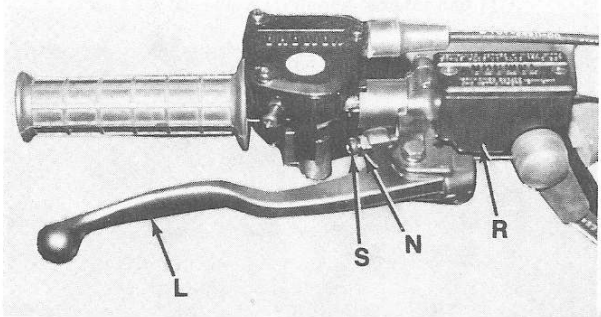
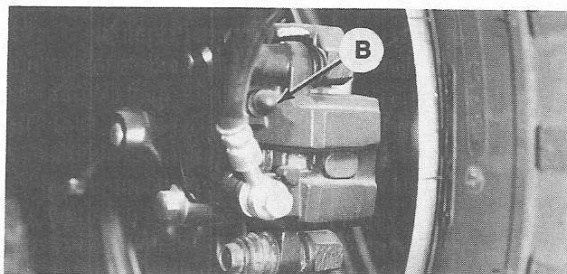

Fig. Y10-22—Loosen locknut (N) and rotate screw (S) to adjust front brake lever (L) free play. View identifies front brake master cylinder reservoir (R).
Fig. Y10-23—Front caliper bleed screw (B) is accessible after removing dust cap.
in.) measured at outer end of brake lever (L—Fig. Y10-22). To adjust, loosen locknut (N) and rotate screw (S) until recommended free play is obtained, then tighten locknut (N) to retain adjustment.
BLEEDING. Make sure reservoir (R—Fig. Y10-22) is full. Connect a bleed hose to bleed valve (B—Fig. Y10-23) on front brake caliper assembly. Route the bleed hose into a suitable container. Operate brake lever (L—Fig. Y10-22) until a hardness (fluid resistance) is felt, then open bleed valve (rotate counterclockwise). Close bleed valve prior to releasing brake lever. Continue bleeding procedure until no air bubbles are noted in discharged fluid from bleed valve.